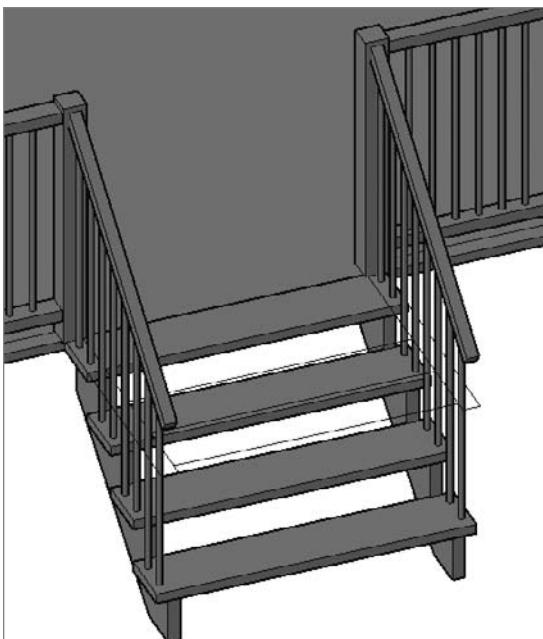

FIGURE 16.65 The completed steps
8. Using the endpoints of the steps as a reference, copy the posts to the other steps and then copy the handrail and posts to the opposite side of the steps. When you are done, the completed steps should look like Figure 16.65.